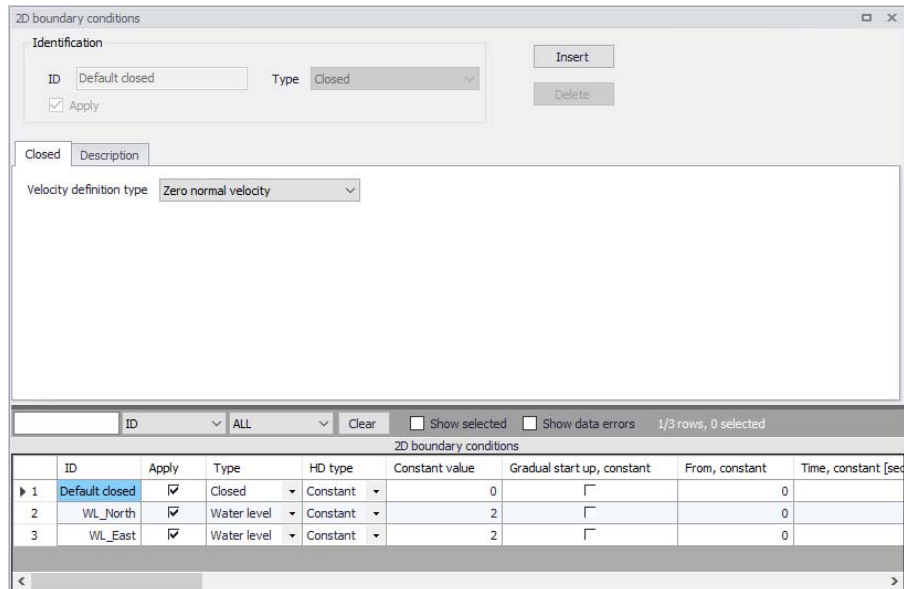

Figure 4.1 The 2D Boundary Conditions editor
If the 2D domain source is 'Domain file created from MIKE+ definition', the user must pre-define open 2D boundaries in the computation grid/mesh on the Map before configuring in the 2D Boundary Conditions editor (Figure 4.1). If the 2D domain source is 'Existing domain file', then the open 2D boundaries are identified from the selected flexible mesh file, and their locations cannot be modified in MIKE+.
3. Configure boundary conditions in the 2D Boundary Conditions Editor (Boundary|2D Boundary Conditions) (Figure 4.1). Details on the various configuration parameters for each type of boundary condition are described in succeeding sections.
3. Configure all the defined boundary conditions in the 2D Boundary Conditions Editor (Boundary|2D Boundary Conditions) (Figure 4.1). Details on the various configuration parameters for each type of boundary condition are described in succeeding sections.